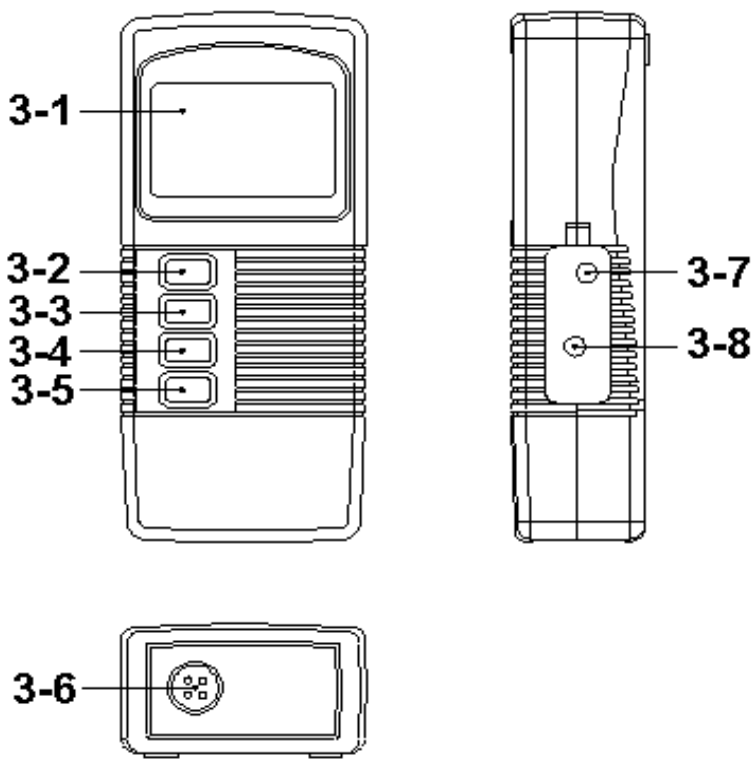
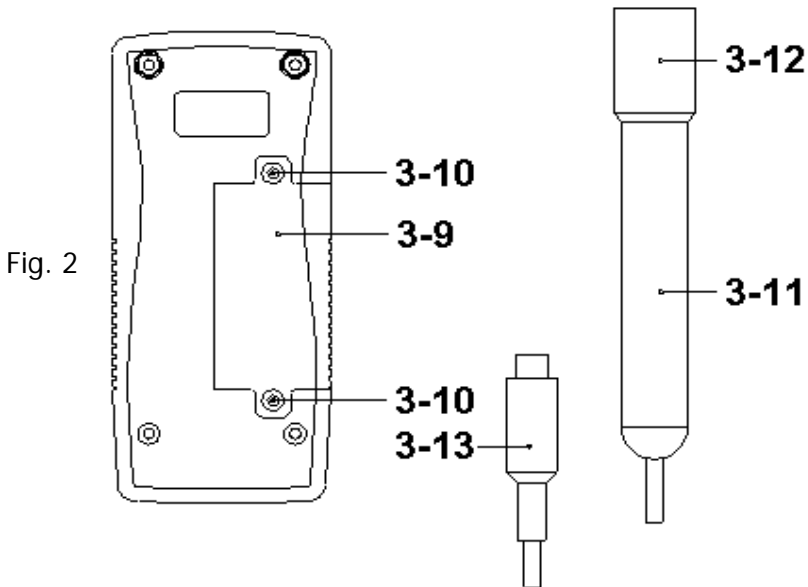

Fig. 1
Fig. 2
1) Turn on the meter by pressing the " Power Button " (3-2, Fig. 1) momentarily.
** Press the " Power Button " (3-2, Fig. 1) momentarily again will turn off the meter.*
Connect the " Probe Plug " (3-13, Fig. 2) into the " Probe input socket " (3-6, Fig. 1).
The " Display " (3-1, Fig. 1) will show the unit as :
2) Hold the " Probe Handle " (3-11, Fig. 2) by hand and immerse the " Sensing Electrode " (3-12, Fig. 2) immersed wholly into the measured solution. Shake the " Sensing Electrode " to let the electrode's internal air bubble drift out from the sensing Electrode.
" Display " (3-1, Fig. 1) will show the conductivity mS (uS) values, at the same time the left bottom display will show the Temp. value of the measured solution.
- 1) During the above 4-1 Conductivity measurement, if press the " Hold button " (3-3, Fig. 1) continuously at least two seconds will enter into the function of TDS measurement with default, the display will show as :
- 2) During the TDS measurement, if press the " Hold button " (3-3, Fig. 1) continuously at least two seconds again will enter into the function of Conductivity measurement with default, refer section 4-1.
During the measurement, press the " Hold button " (3-3, Fig. 1) once will hold the measured value & the LCD will display a " HOLD " symbol.
* The data record function records the maximum and minimum readings. Press the " REC button " (3-4, Fig. 1) once to start the Data Record function and there will be a " REC " symbol on the display.
a) Press the " REC button " (3-4, Fig. 1) once, the " REC MAX " symbol along with the maximum value will appear on the display.
If intend to delete the maximum value, press the " Hold button " (3-3, Fig. 1) once, the display will show the " REC " symbol only & execute the memory function continuously.
b) Press the " REC button " (3-4, Fig. 1) again, the " REC MIN. " symbol along with the minimum value will appear on the display.
If intend to delete the minimum value, press the " Hold button " (3-3, Fig. 1) once, then the display will show the " REC " symbol only & execute the memory function continuously.
- a) Press the " REC button " (3-4, Fig. 1) once to start the Data record function and there will be a " REC " symbol on the display.
Press the " Logger button " (3-5, Fig. 1) once to start the Data Logger function. The " REC " symbol will flash per 1.5 second and the beeper will sound when save the data into the memory. Now the Data Logger function is executed.
Press the " Logger button " (3-5, Fig. 1) once will save the data one time into the memory, at the same time the symbol " REC " will flash once and the beeper will sound.
- c) During the Data Logger function is executed, press the " Logger button " (3-5, Fig. 1) once will stop the data logger function, the " REC " symbol will stop to flash.
If press the " Logger button " (3-5, Fig. 1) once again will continuous the Data Logger function.
- a. Hold the " Setting button " (3-5, Fig. 1) at least five seconds will enter the Advanced Setting Procedures.
- b. One by one to press the " Setting button " (3-5, Fig. 1) once a while to select the main setting function in sequence and show on the text the lower display as :
After the low display show " SEt ", press the " Enter button " (3-4, Fig. 1) once. the " SEt " symbol will flash, the up display will show the " Temp. compensation factor ".
Use " ▲ button " (3-3, Fig. 1) and " ▼ button " (3-5, Fig. 1) to adjust the up display value until it same as the desiring Temp. Compensation Factor value (unit is % per °C) exactly.
After select the desiring value, press the " Enter button " (3-4, Fig. 1) to save the data.
- a. Use " ▲ button " (3-3, Fig. 1) to select " °C " or " °F ".
- b. After select the desiring value (°C or °F), press the " Enter button " (3-4, Fig. 1) to save the data with default.
- a. Use " ▲ button " (3-3, Fig. 1) to select " YES " or " no ".
- b. After select the desiring function (YES or no), press the " Enter button " (3-4, Fig. 1) to save the function with default.
- a. Use " ▲ button " (3-3, Fig. 1) to select data logger sampling time to
- b. After the sampling time value is determined, press the Enter button " (3-4, Fig. 1) to save the sampling time with default.